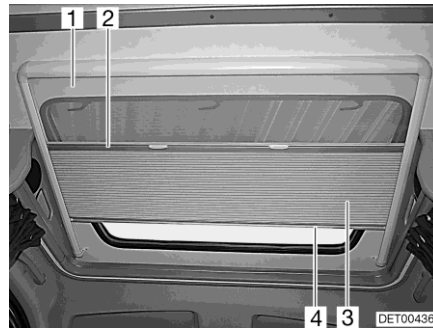

Fig. 59 Roof window
Roman shade The Roman shade (Fig. 59,3) is permanently connected to the insect screen (Fig. 59,1).
- Hold the Roman shade in the centre of the bottom rod (Fig. 59,4) and carefully draw it downwards.
- Slowly return the Roman shade to its initial position with the bottom rod (Fig. 59,4).
- Hold the insect screen at the centre of the bottom rod (Fig. 59,2) and carefully pull it downward as far as it goes.
- Slowly return the insect screen on the bottom rod of the Roman shade (Fig. 59,4).